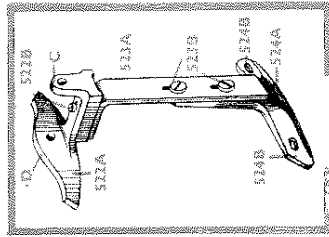

Fig. 7
Fig. 7, the combination yarn-guide and latch-opener (522A), is secured to an upright (523A) by two screws (523B), the screw holes are slotted so that the yarn-guide can be raised or lowered to the required position to suit the needles. The bracket is screwed to the gear-ring at A (Fig. 4). Screw (522B) is to adjust the yarn-guide forwards or away from the needles. The yarn is threaded from the back, first through hole (C) then through hole (D).